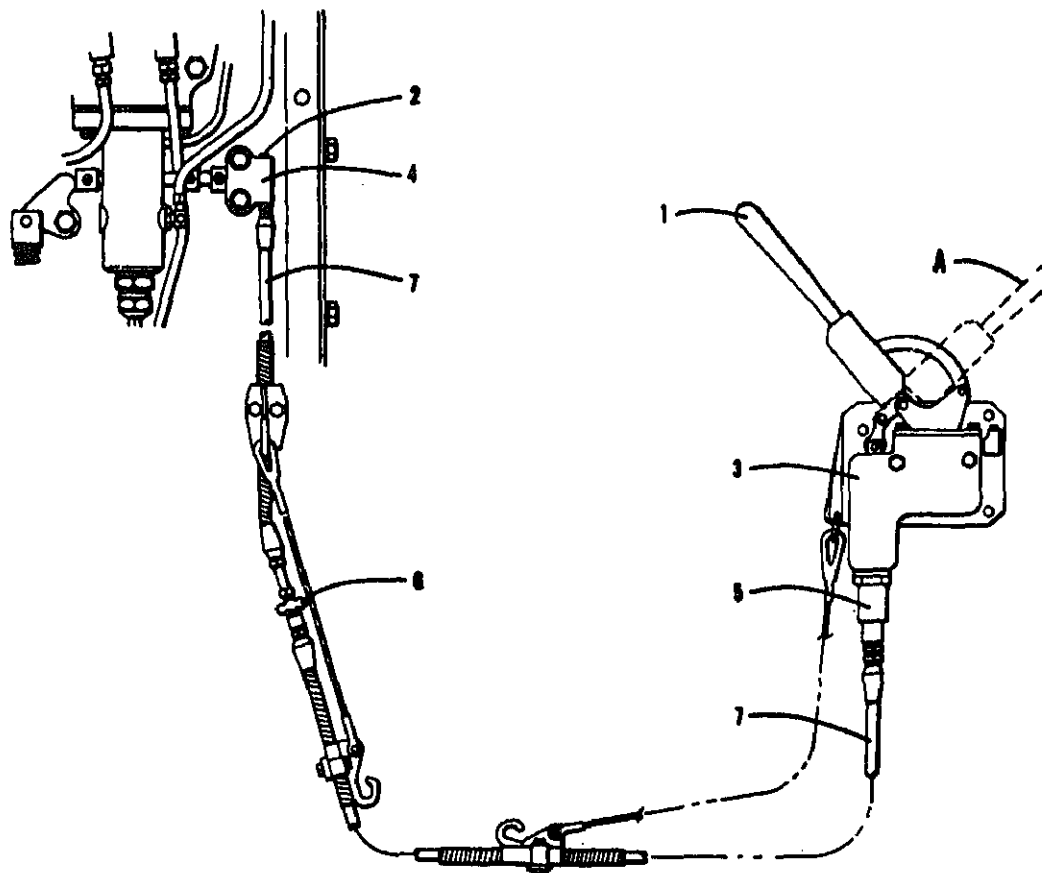

FIG. 11-6
- (I) A transmitter Fig. 11-6, which is the master cylinder for the control system and is usually operated by the machine operator.
- (II) A double relief valve is mounted directly below the transmitter. This is designed to hold a pressure preloaded head of oil in the control hose.
- (IV) A receiver is mounted on the Hammer.
A self-sealing coupling, Fig. 11-6, is located on the Hammer, permits removal of the hose without losing oil pressure or admitting air into the system while transporting the Hammer.
- (e) Remove bleed plug Fig. 11-6, located on top of receiver cylinder.